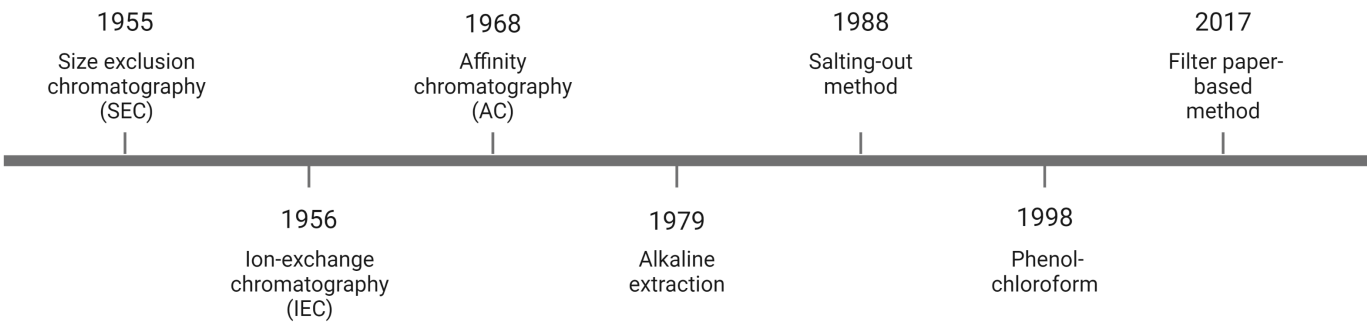

Figure 1. The development of different DNA extraction techniques over the years.
and gene-editing technologies. Although several variations of DNA extraction have been developed since Miescher’s initial discovery (figure 1), the principle behind each method consists of the same basic steps: (1) disruption of the cell and nuclear membranes; (2) separation of DNA from the cell lysate (e.g., lipids, proteins, and other nucleic acid species); and (3) concentration and purification of DNA. Determining which DNA extraction method to use is primarily influenced by the intended downstream applications for which the isolated DNA will be used. Besides the quality and quantity of the DNA extracted, other factors to consider are time, cost, yield, laboratory equipment, and the amount of starting material needed for the experiment.